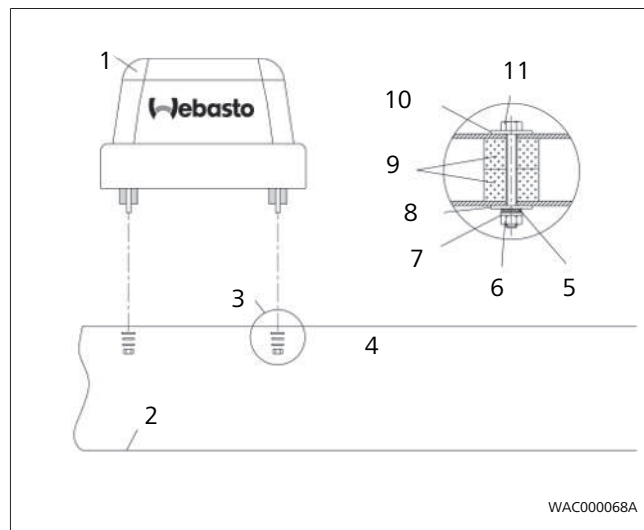

Fig. 6 Base plate installation
2. Position the base frame on the roof (weatherseal) with spacers, align it, position spacer discs underneath the 6 fixing points and put the 6 M6 bolts (with washers) through the holes (See Fig. 6).